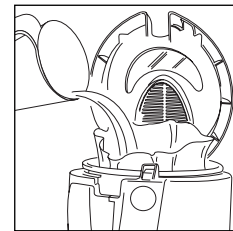

fig. 8
8. Pour the oil very slowly into the basket, ensuring that it does not overflow from the filter (fig. 8).